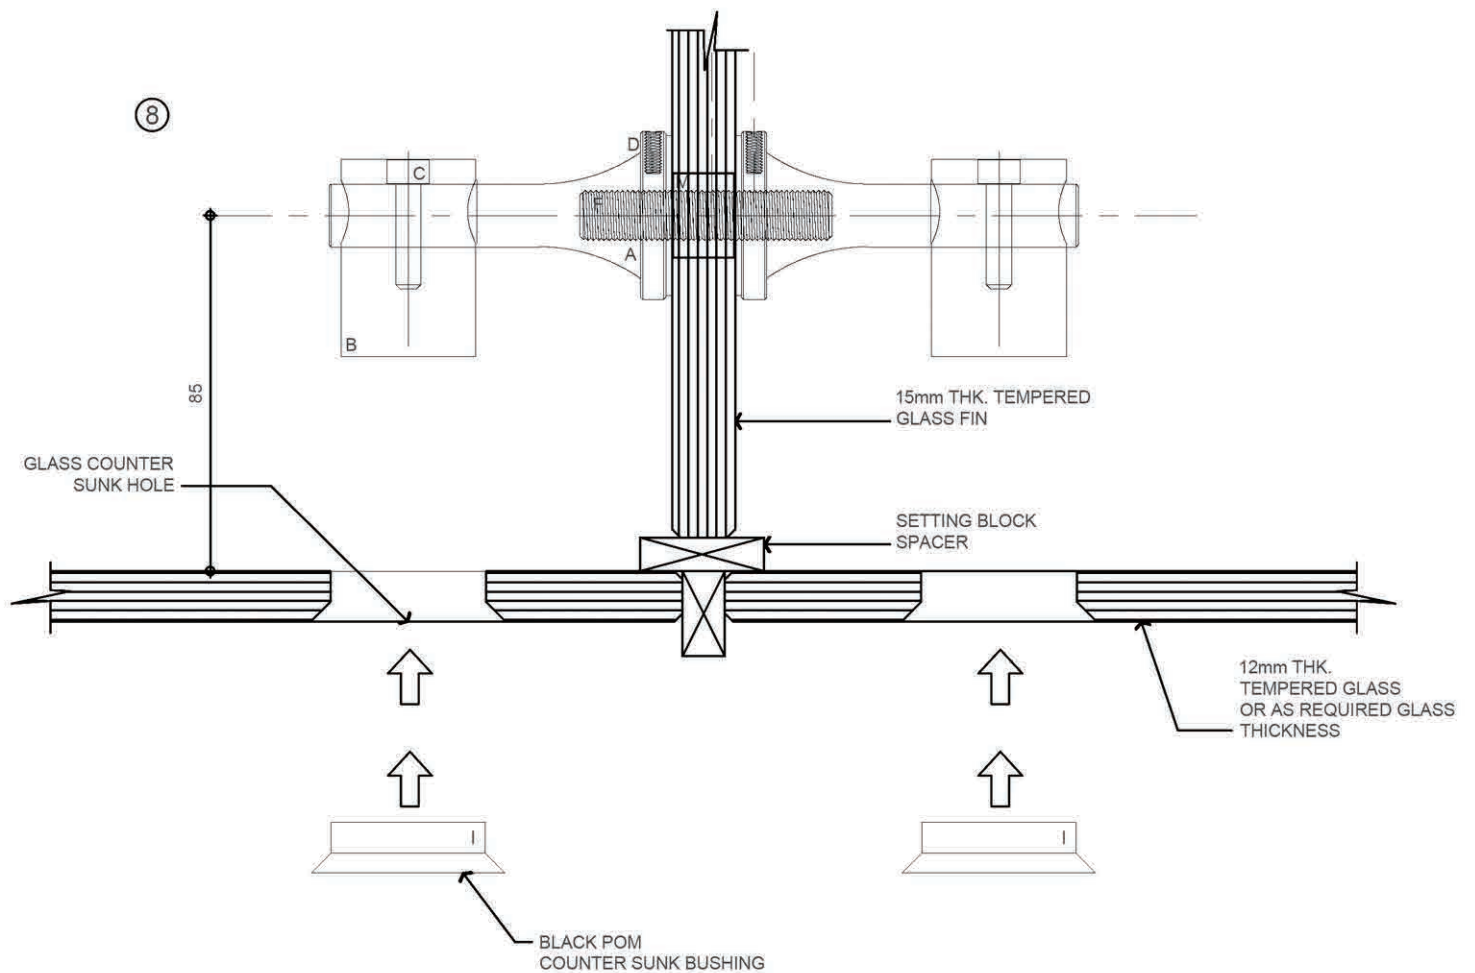

FIG. 4
- ⑧ INSERT THE BLACK POM COUNTER SUNK BUSHING (I) TO THE GLASSWALL COUNTERSUNK HOLE. (SEE FIG.4)
- ⑨ FIRST PLACE FIXING PLATE (G), BLACK BAKELITE WASHER(H), AND TIGHTEN NUT(J) IN THE RIGHT SEQUENCE BETWEEN CONNECTION ROD (B) AND GLASS PANEL